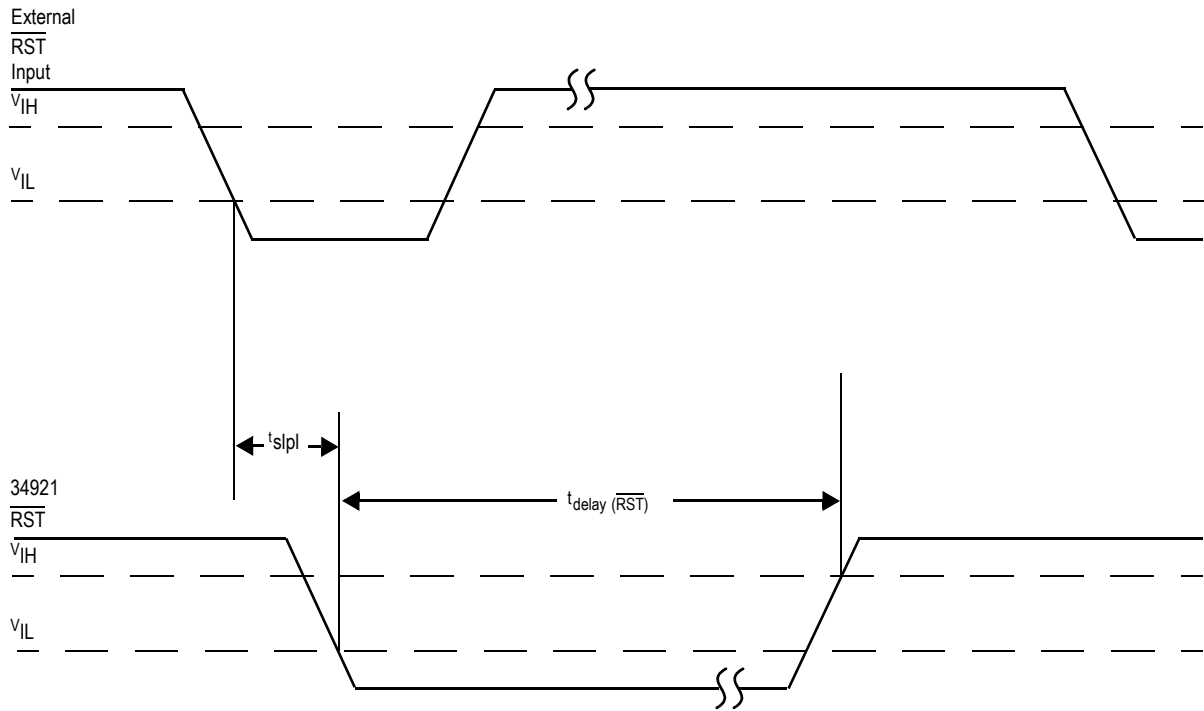

Figure 6.  $\overline{RST}$  Timing
25. See Figure 6, RST Timing, page 17.